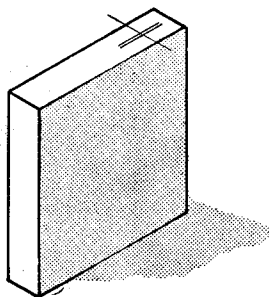

Fig. 2. The cross-centre lines are scribed on the work
screws and wing-nuts shown in Fig. 2. Both basins are then joined by the liberal use of heatless solder applied in the form of a fillet right round the outside of the junction of the two units.
*Left: Fig. 2. Each arm is fitted with a "U" shaped bracket on which the reflector is mounted*
After the cross centre-line has been scribed, the appearance of the marked-out work may be like that shown in Fig. 2, and the next thing is to mark the drilling centres with the centre punch.